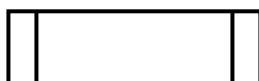
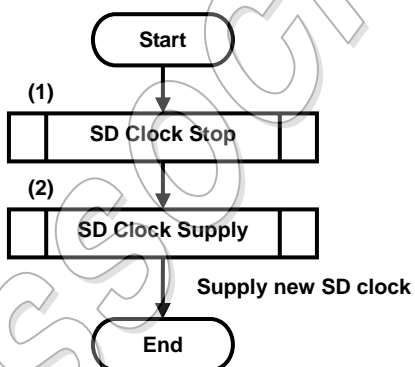

Figure 3-1 : Double Box Notation
Figure 3-5: SD Clock Change Sequence
This specification uses the double box like Figure 3-1, (the step (1) in Figure 3-5 and the step (5) in Figure 3-21), It means that the other flows, which already are shown, shall be performed. Therefore, the interrupt may be included in the other flows.
The sequence for changing SD Clock frequency is shown in Figure 3-5. When SD Clock is still off, step (1) is omitted. Please refer to Section 3.2.2 for details regarding step (1) and Section 3.2.1 for step (2).